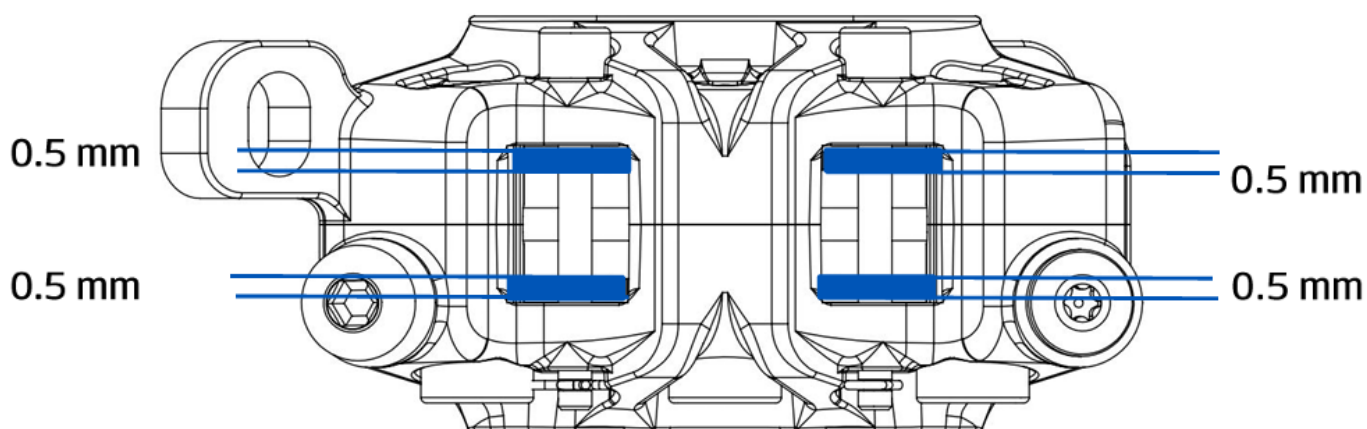

Fig. 8
- Check the brake pads and discs. Replace the pads when there is less than 0.5 mm left (Figure 8) and the discs when there is less than 2.0 mm left.